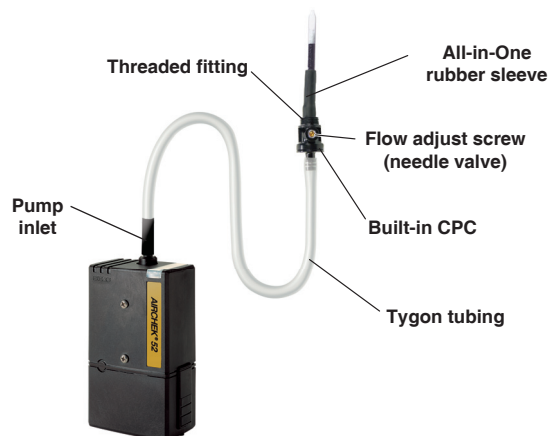

Figure 2. All-in-One Low Flow Holder Connected to AirChek 52
### Using the All-in-One Low Flow Holder (Figure 2)
1. Replace the representative sorbent tube used for calibrating flow with a new unexposed sorbent tube for sample collection. **Note:** Ensure sorbent tube fits snugly in rubber sleeve of the All-in-One before sampling to avoid any air leakage. Two sleeves, each a different inner diameter (ID), are supplied.
2. Place the tube cover over the tube (Figure 2) and thread it into place on the All-in-One low flow holder.